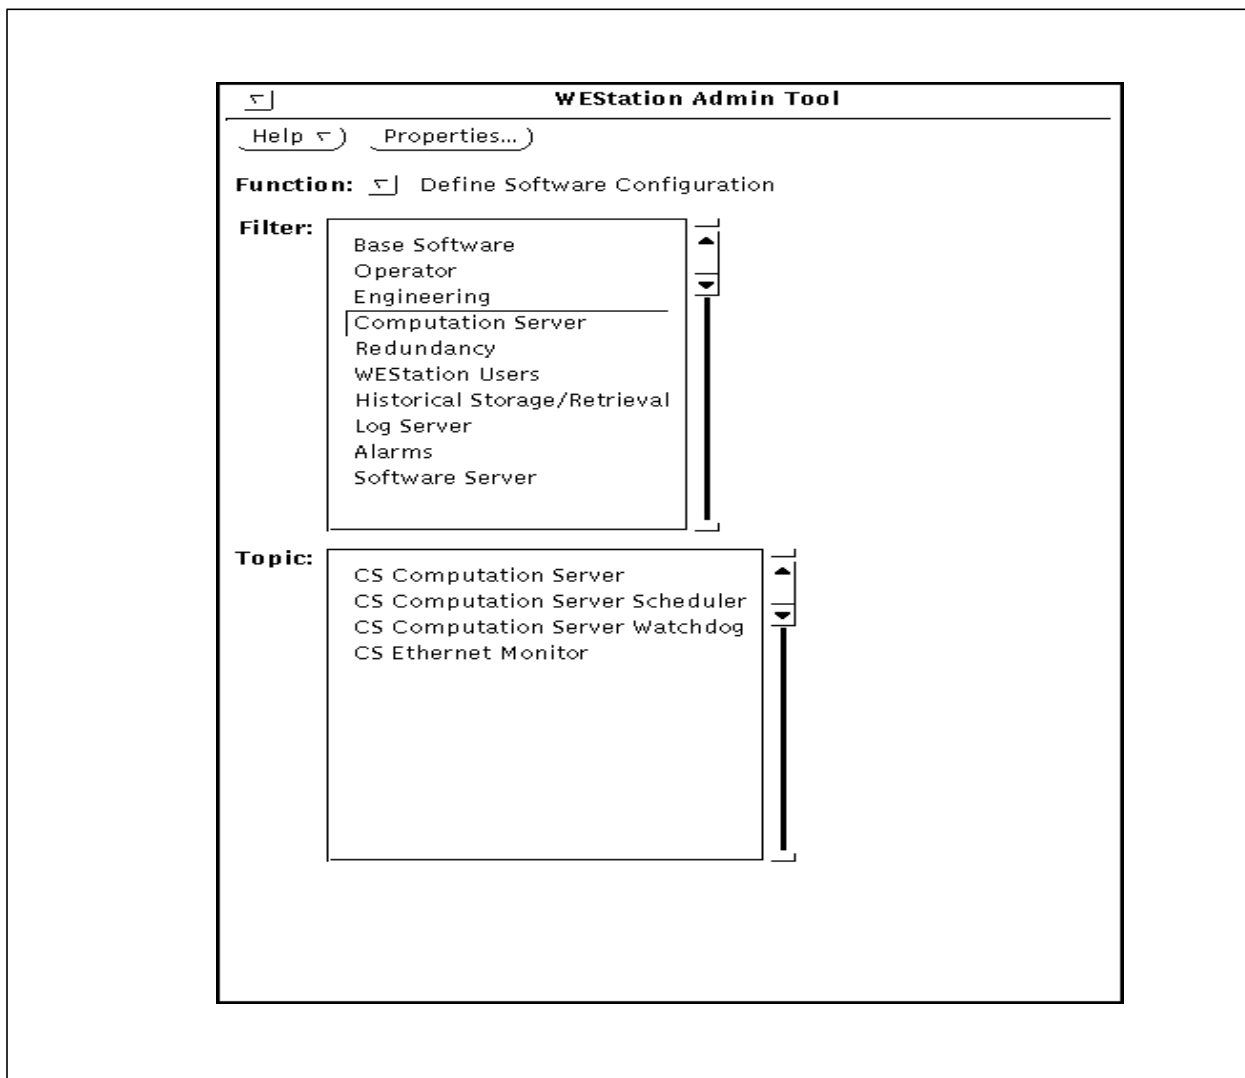

Figure 3-2. WEstation Admin Tool Utility Window
2. Figure 3-2 provides an example of the WEstation Admin Tool main window that will display on the screen. The window's contents will actually depend upon the software packages selected in the system. Table 3-2 defines briefly the functions available through this window. Access the Help menu item "Defining Configuration" for additional information on window functions.